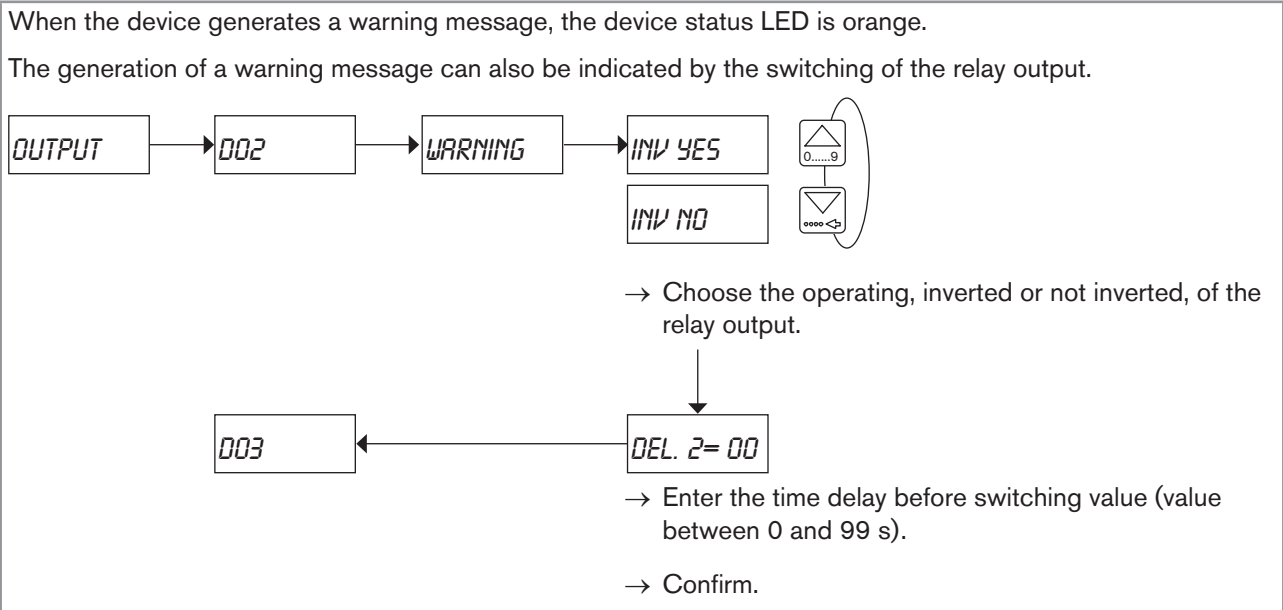

Fig. 38 : Configuration of the DO2 or DO3 relay output to indicate the generation of a warning message
- to switch a load when a warning message is generated by the device. See Fig. 38.